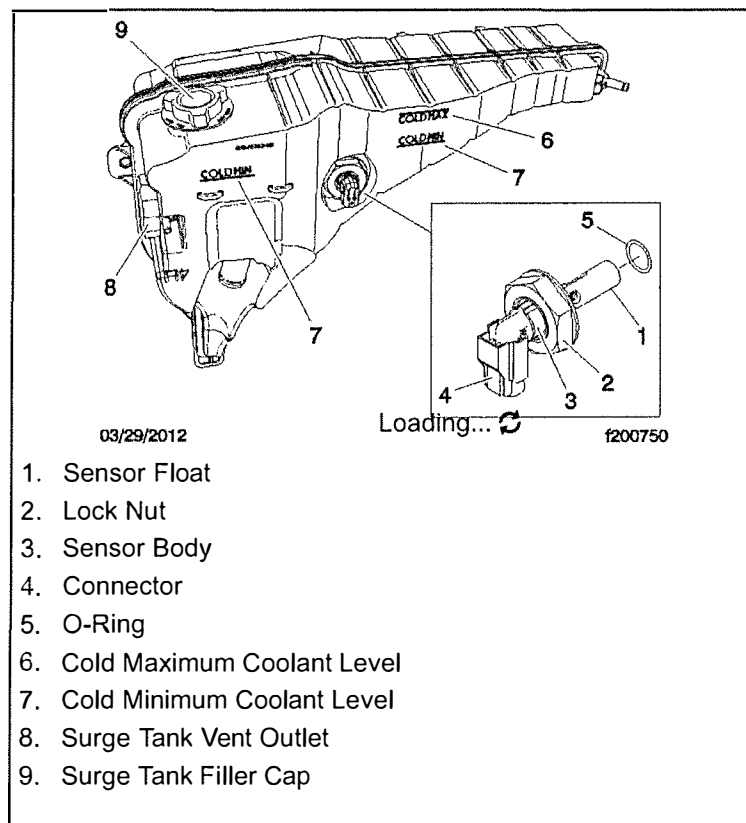
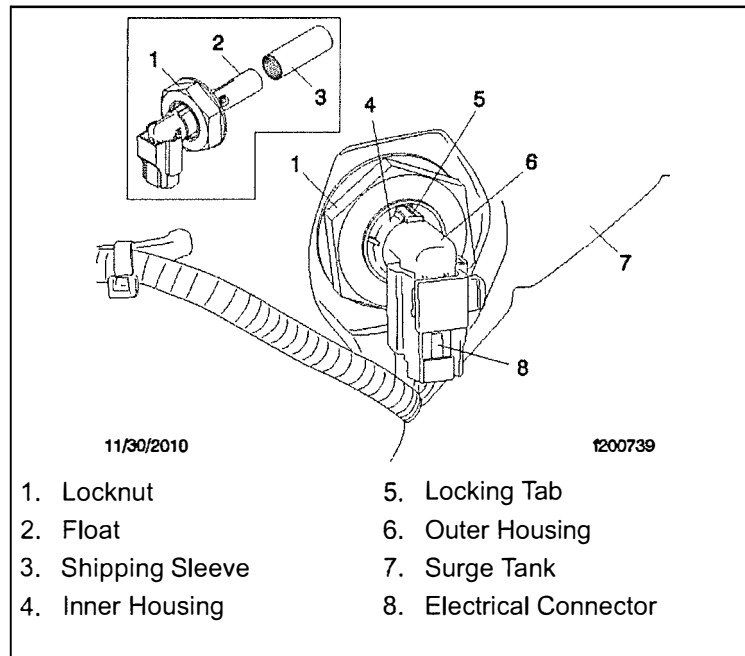

Fig. 1, Low Coolant Level Sensor Installation
Fig. 2, Low Coolant Level Sensor
3. Fill the surge tank to "COLDMAX". See Fig. 1 .
The low coolant level sensor is located in the coolant surge tank on EPA07 and later vehicles. See Fig. 1 . The low coolant level sensor is assembled with a two-piece housing held together with two locking tabs, one on the top and the other on the bottom. See Fig. 2 .